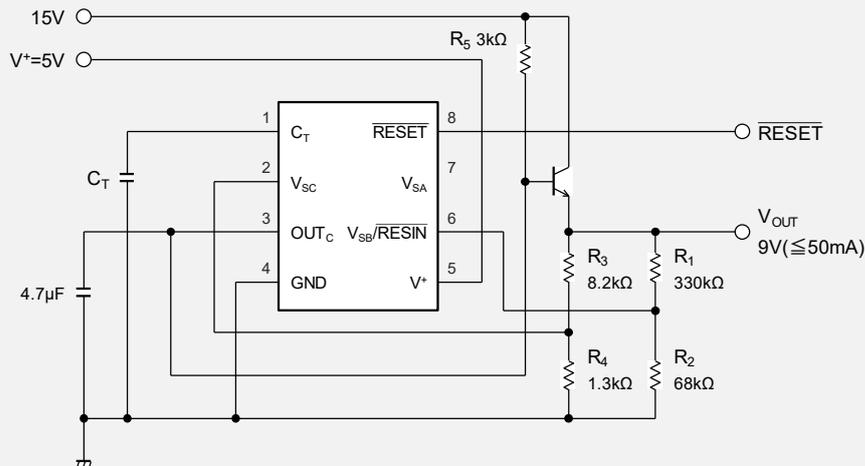

Fig. 11 Reference voltage output and voltage drop monitoring (e.g. 9V reference output, 5V, 9V monitoring)
- The reference voltage V_{OUT} and its detection voltage are calculated as the following formula. In case of resistor value in Fig.11, the reference voltage V_{OUT} is about 9.0V, the detection voltage (V_{OUT} falling) is about 7.1V and the detection voltage (V_{OUT} rising) is about 7.3V